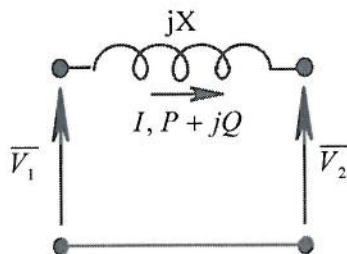

Figure 2.1: equivalent circuit of a transmission line
2. In Figure 2.1 a simplified equivalent circuit of a transmission line is presented.